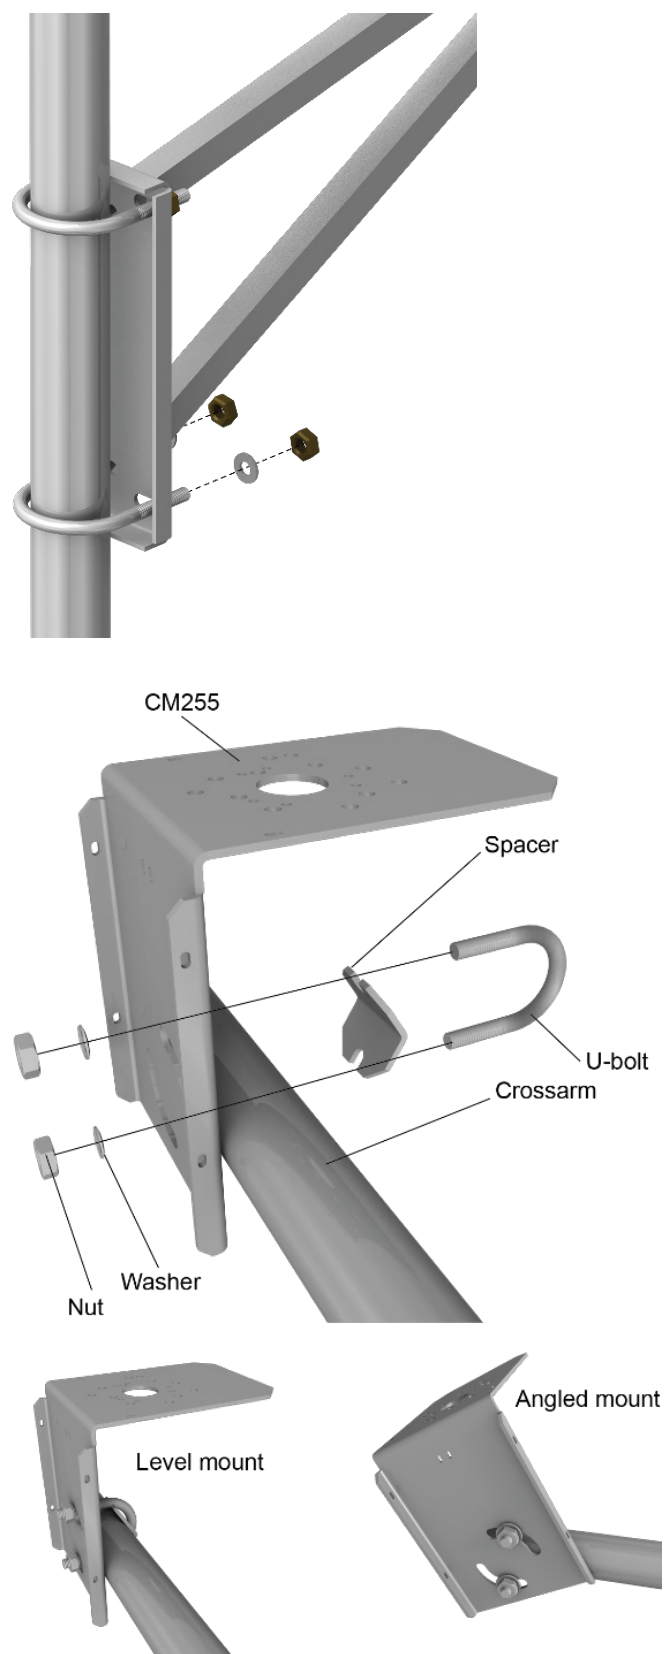

FIGURE 6-3. 015ARM and CM255 showing U-bolt mounting
4. Secure the mounting bracket to the crossarm or the vertical pole using the hardware included with the mounting bracket. The 015ARM, CM225, and CM255 use one or two U-bolts, nuts, flat washers, and lock washers to mount the bracket (FIGURE 6-3).